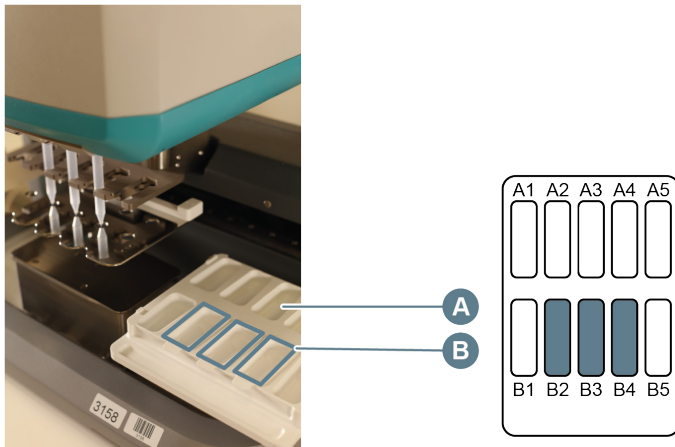

Figure 30. Reservoir tray in filling position
3. Slide the reservoir tray to the filling position (A) and place three new reservoirs in position B2, B3 and B4 (B) (*Figure 30*).